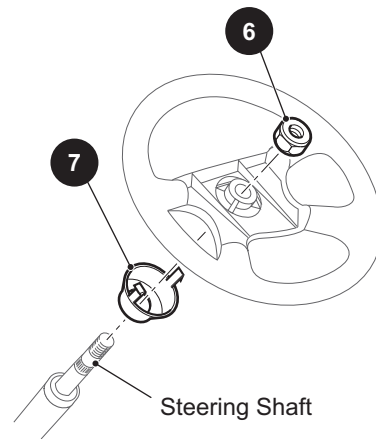

Figure 21 Steering Wheel Replacement
- Loosen the steering wheel retaining nut (6) two to three turns (Ref. Figure 21). **DO NOT REMOVE NUT AT THIS TIME.** Apply upward pressure to the steering wheel. Place a plastic faced hammer against the steering wheel nut and strike the plastic faced hammer sharply with a ball peen hammer.